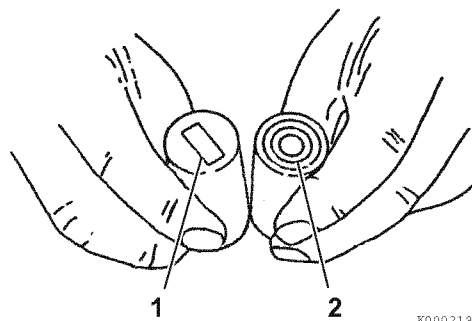

Figure 6-74
1. Inspect the tappet contact surfaces for abnormal wear (1, **Figure 6-74**). Normal wear will be even as shown in (2, **Figure 6-74**). Slight surface defects can be corrected using an oilstone.